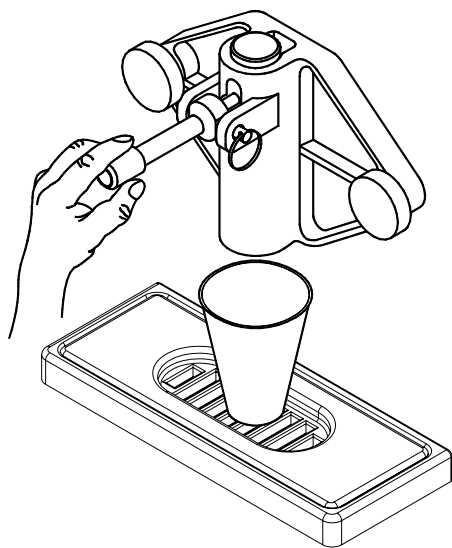

Fig. 17
1. Chase the sanitizing solution from the mix pan by pouring product behind any remaining solution which will then drain through the machine. This will ensure that sanitizing solution will not remain in the machine to freeze or be served to the customer. Open the spigot plunger and dispense the liquid to purge the system of sanitizing solution (Fig. 17).